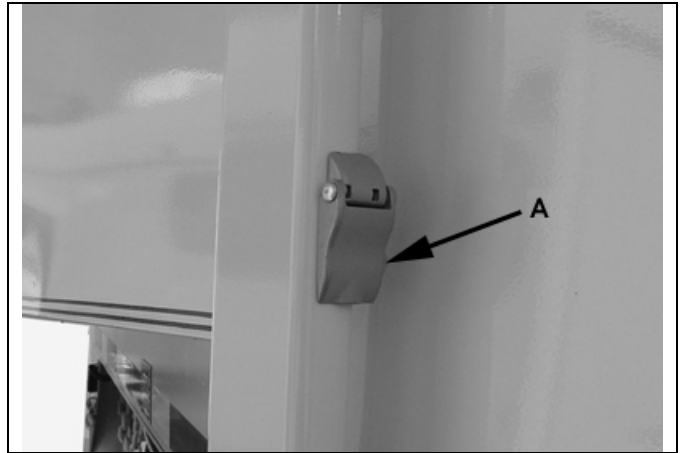

Figure 10-12 – Close Awning Latches
- Close latches (A) on each awning arm. See figure 10-12.